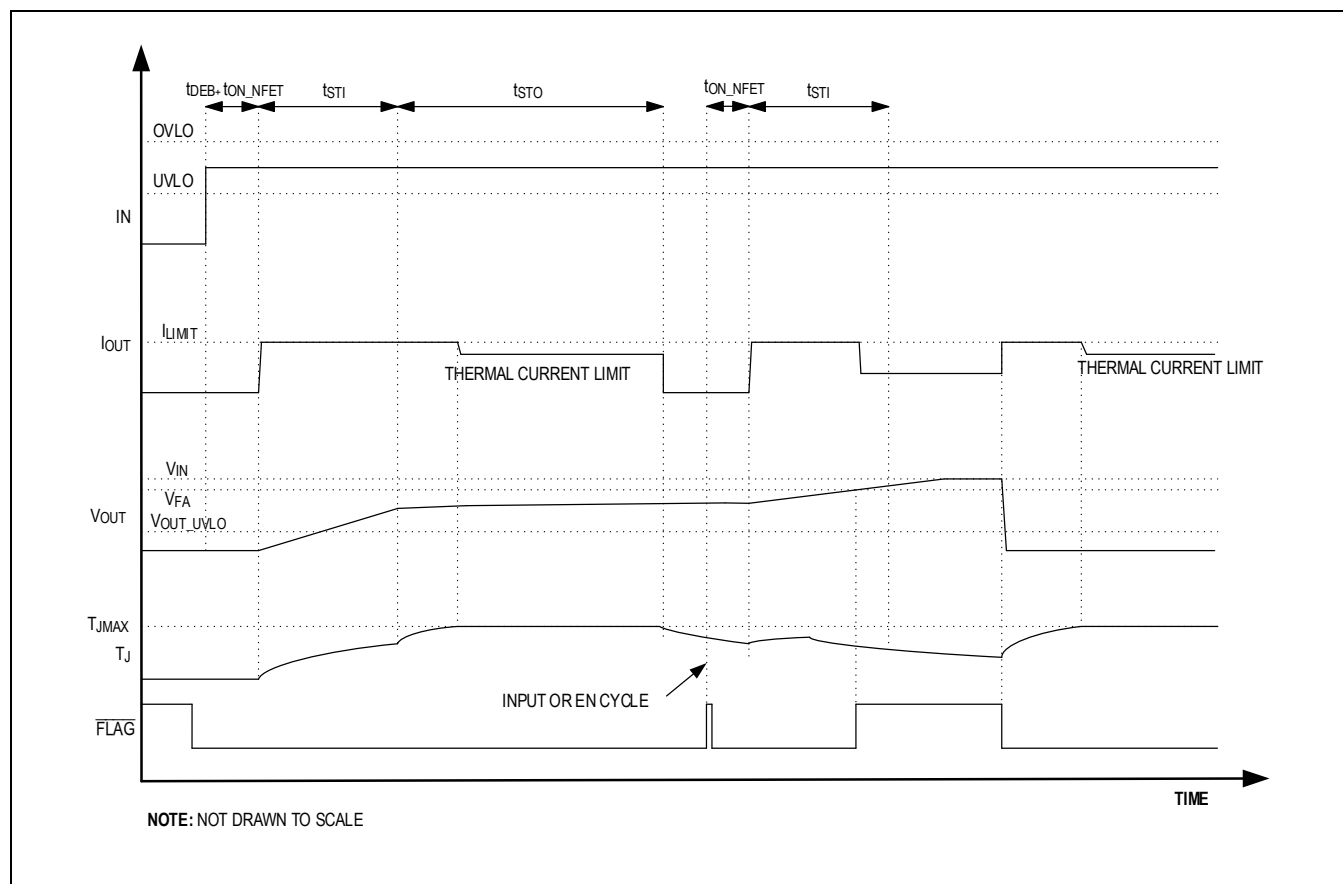
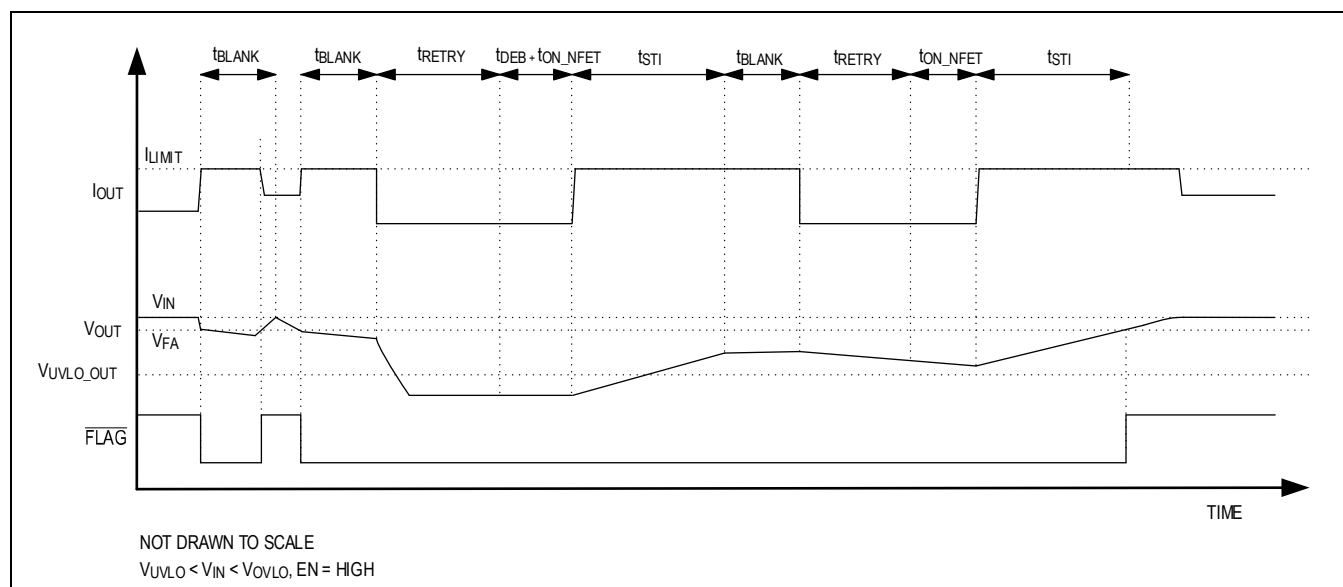
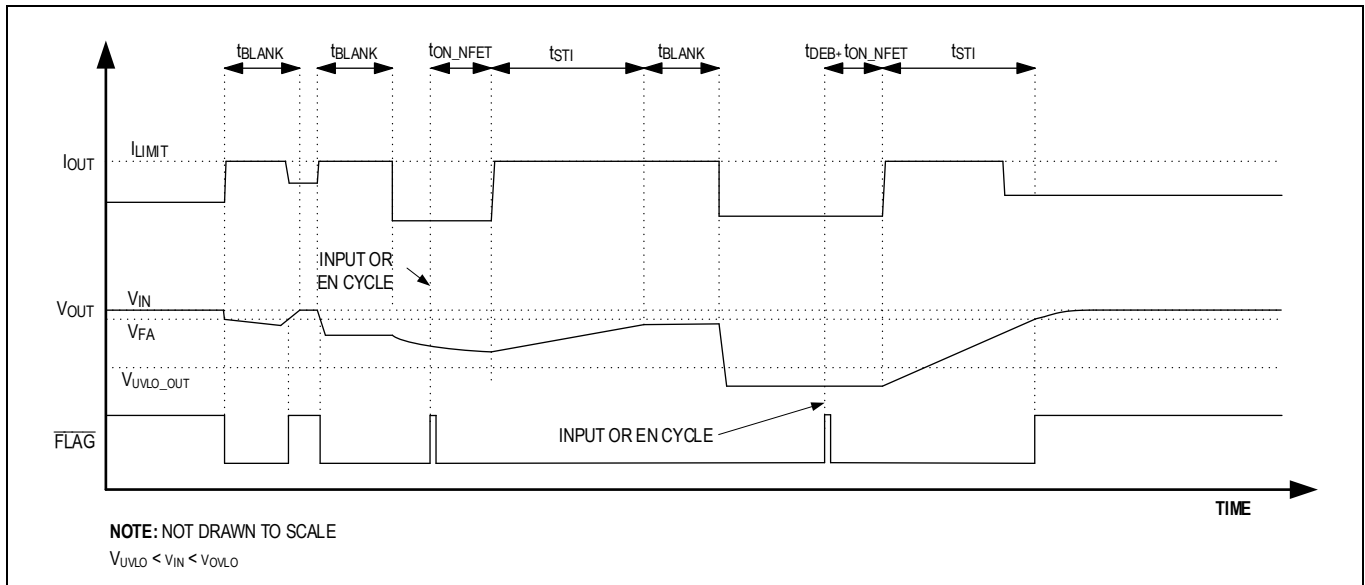

Figure 16. Continuous-Fault Timing Diagram
Figure 17. Fault Timing Diagram
Figure 18. Latchoff-Fault Timing Diagram
In continuous current-limit mode, when current through the device reaches the current-limit threshold, the device limits the current to the programmed current limit. The FLAG pin asserts when the voltage drop across the internal switch rises above V_{FA} , and deasserts when it falls below V_{FA} . Figure 16 depicts typical behavior in continuous current-limit mode.
With a 24ms (typ) t_{BLANK} , 24ms (typ) t_{STI} , and 720ms (typ) t_{RETRY} , the duty cycle is 6.25% resulting in 93.75% power reduction when compared to the switch being on the entire time. Figure 17 depicts typical behavior in the autoretry current-limit mode.
In latch-off current-limit mode, when current through the device reaches the current-limit threshold, the t_{BLANK} timer begins counting. The $\overline{\text{FLAG}}$ pin asserts when the voltage drop across the internal switch rises above V_{FA} and deasserts when it falls below V_{FA} . The timer resets if the overcurrent condition disappears before t_{BLANK} has elapsed. The switch turns off and stays off if the overcurrent condition continues beyond t_{BLANK} . To reset the switch, either by holding the control logic (EN) below 0.4V for at least 30 μs (typ) or cycle the input voltage. Figure 18 depicts typical behavior in latch-off current-limit mode.
The thermal shutdown behaves similarly to the current limit. In mode, the thermal shutdown works with the autoretry timer. When the junction temperature falls below the falling thermal shutdown threshold, the device turns on after the t_{RETRY} . In latch-off mode, the device latches off until either the input power is cycled or the EN pin is toggled. In continuous mode, the device is only turned off when the temperature is over the limit and turns back on after t_{DEB} when the temperature reaches the falling thermal-shutdown threshold. There is no blanking time for thermal protection. Figure 16, Figure 17 and Figure 18 depict typical behavior under different current limit modes.